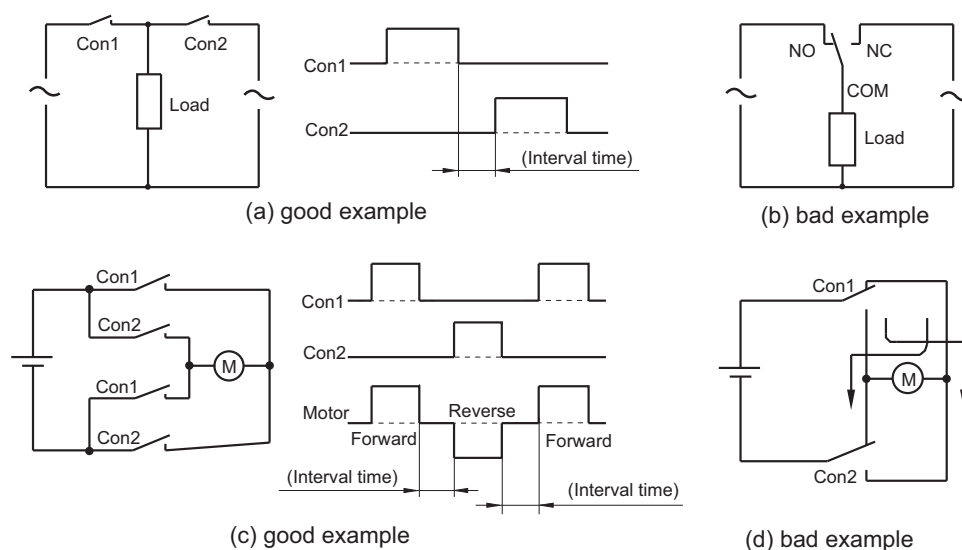

Figure 5
In the electrical circuit, the following points should be considered (seen in the figure 5)
2) Care should be taken that the two pairs of switching contacts are not used to build the forward circuit and the reverse circuit, as shown in figure 5(d). We recommend to use electrical circuit demonstrated in pic 5 (c), but please don't apply over-current on contact to prevent short circuit from happening on NO, NC contacts due to unopened electrical arc which may lead to short circuit on electrical power supply.